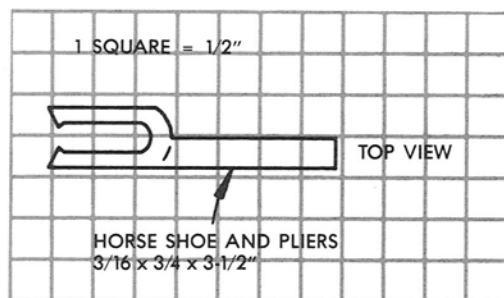

Figure 4-47. Horse shoe and plier detail.
4. Now make the arms, the hammer and the pliers/horseshoe (Fig. 4-47). Test the location of the left arm and the pliers/horseshoe before attaching the arm to the figure. Cut a slot in the hand for the pliers and glue/brad the pliers to the hand. Then attach the shoulder to the body with glue/brads so that the horseshoe lies flat on the anvil. A brad can hold the pliers/horseshoe to the anvil.